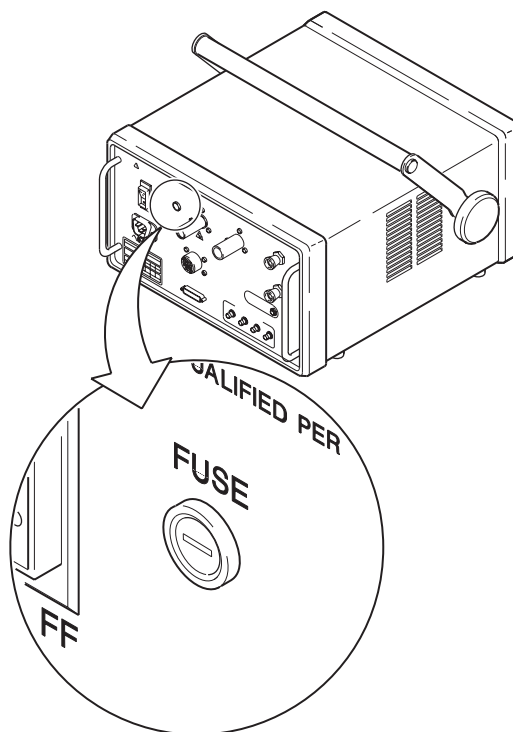

Figure 104 Ceramic Fuse Location
- a. Unscrew the fuse cap using a flat blade screwdriver. See Figure 104.